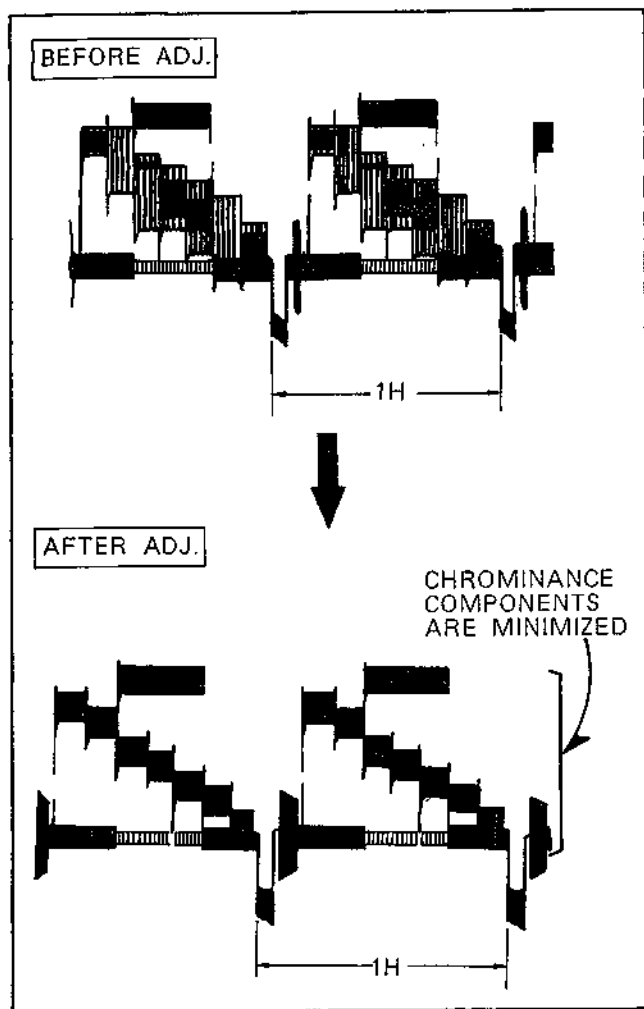

FIG. E22
- Adjust VR3708 and VR3707 mutually so that the chrominance level is minimized as shown in FIG. E22.